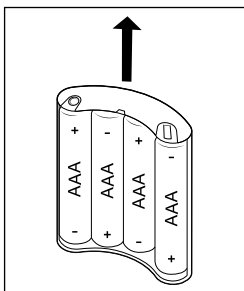

Fig. 3
6. Slide the battery holder **15** back into the battery compartment **14**. Make sure that the battery holder **15** is inserted into the battery compartment **14** with the contacts entering first (see Fig. 3 and 4).